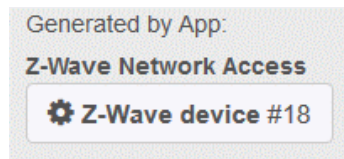

Figure 4.16: Generated by Z-Wave device
- If the element is an endpoint of a Z-Wave device (sensor, switch, etc.), its node ID is shown as reference (e.g. node #18, Figure 4.16). A click on the button then will forward you to its Z-Wave node configuration (4.5).